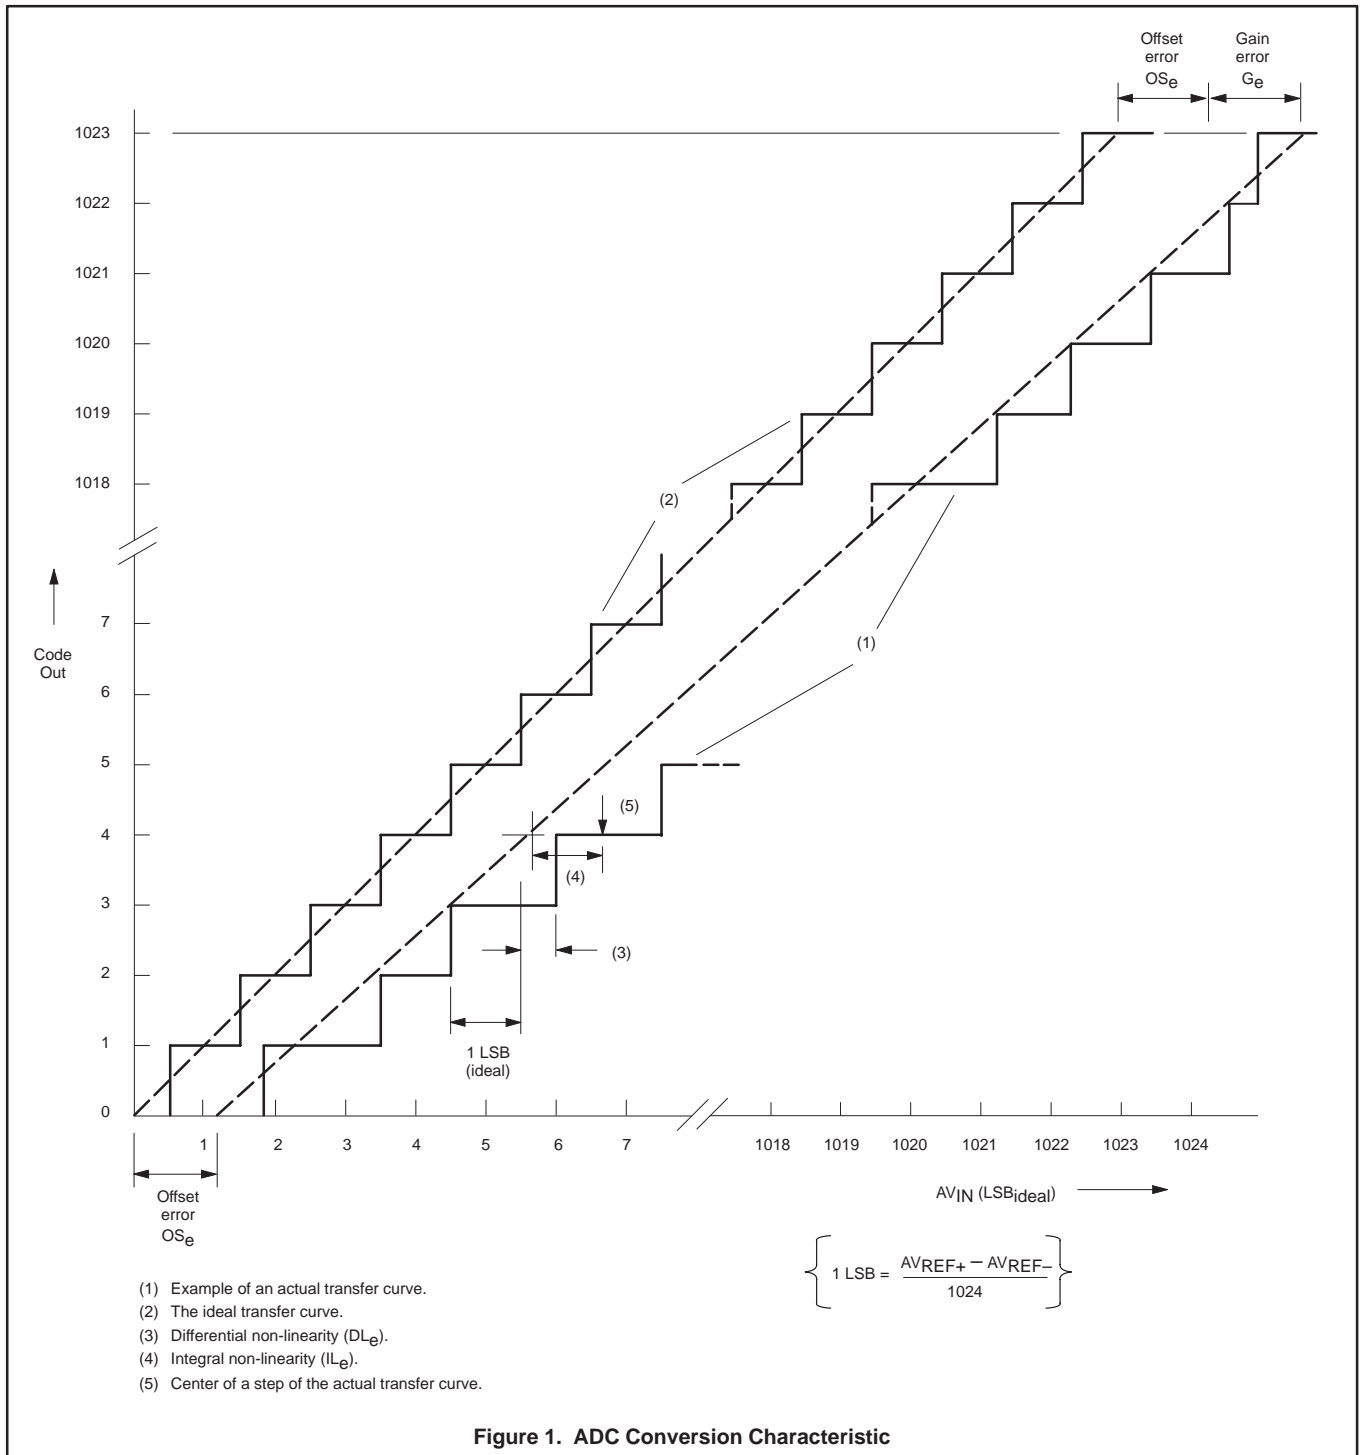

Figure 1. ADC Conversion Characteristic
- The differential non-linearity (DLe) is the difference between the actual step width and the ideal step width. (See Figure 1.)
- 13. The integral non-linearity ( $IL_{\theta}$ ) is the peak difference between the center of the steps of the actual and the ideal transfer curve after appropriate adjustment of gain and offset error. (See Figure 1.)
- 14. The offset error ( $OS_{\theta}$ ) is the absolute difference between the straight line which fits the actual transfer curve (after removing gain error), and a straight line which fits the ideal transfer curve. (See Figure 1.)
- 15. The gain error ( $G_{\theta}$ ) is the relative difference in percent between the straight line fitting the actual transfer curve (after removing offset error), and the straight line which fits the ideal transfer curve. (See Figure 1.)